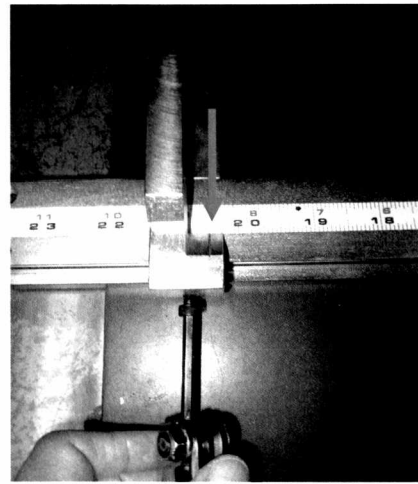

Figure 7.
- 7.) Slide the float stop and align the red mark on the correct measurement, using the fixture-mounted scale. Tighten the set screw (Figure 7).